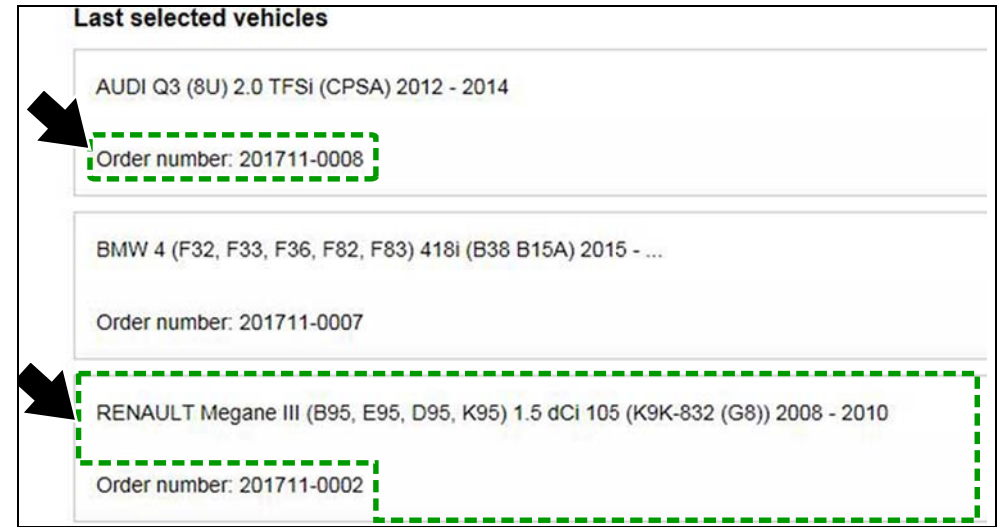

Figure 9-11
- To open the work order, select the **“Order number”** text (e.g. Order Number: 201711-0025) (*Figure 9-11* upper arrow).
- Selecting the vehicle description text or other areas in the frame will start a new session for that vehicle (*Figure 9-11* lower arrow).